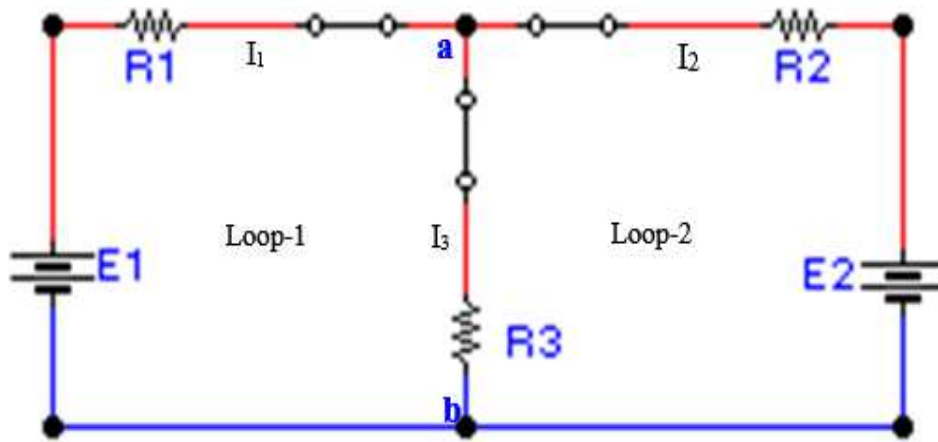

Figure 15:
That is whatever currents enter a given point in a circuit must leave that point assuming no sinks or sources of currents at that point. This is due to the conservation of electric charge. The junction is any point in the circuit where the current can split. If we apply this rule to junction (a) in Fig.15, we get:
1. Connect the circuit as in Fig.15.
7. Record your data as shown in Table (I) below.